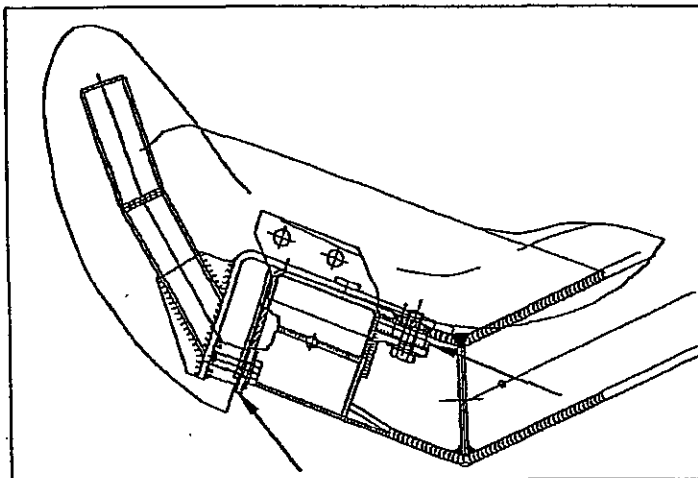

figure 3: Seat pan, mounted on the suspended seat
- 1 Visually check the seat (figure 3) for cracks. Pay special attention to possible rust formations (figure 3/arrows) at the transition area between the PUR part and the steel part. (For your information, at this location no cracks were found).